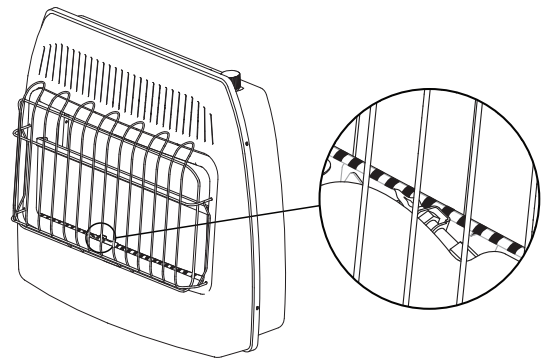

Fig. 24 - Pilot Flame Location
6. With control knob depressed, push down on the ignitor button until the pilot lights. The pilot is visible centered below the plaques, behind the front grill. (See Fig. 24)
7. Keep control depressed for (30) seconds after pilot lights. Release control knob.
7. Keep control knob depressed for (30) seconds after pilot lights. Release control knob.